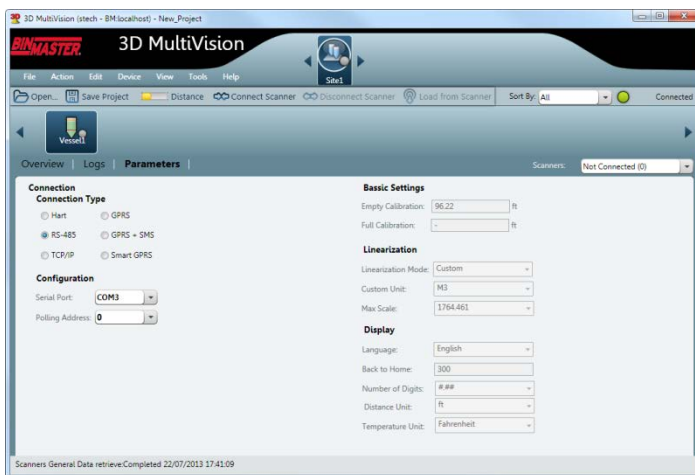

Figure 30: Scanner Parameters tab
- 3 Select the Parameters tab to configure the scanner parameters (Figure 30). Select the Connection Type (the unsupported types are visible but not selectable), Serial COM Port, and Polling Address.